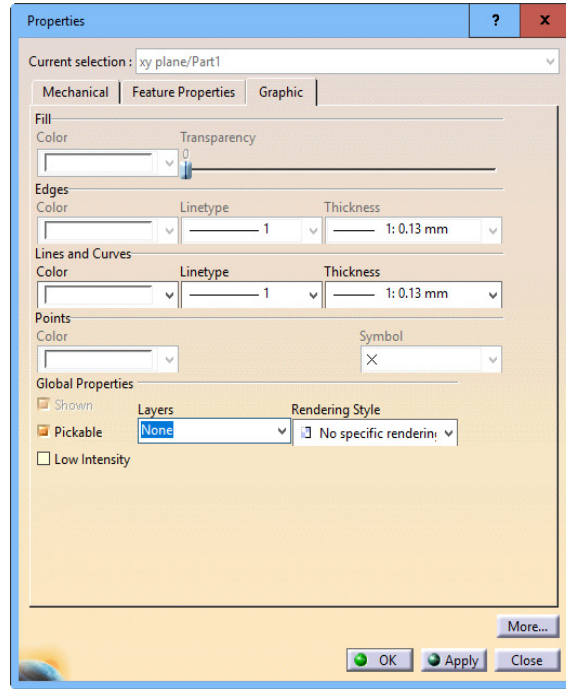

Figure 1-57 The **Properties** dialog box with **Graphic** tab chosen
**Graphic** tab and then select the Black color from the drop-down list in the **Lines and Curves** area. Choose the **OK** button to apply the scheme to the CATIA V5 environment. Similarly, change the color of the remaining two planes. Figure 1-57 shows the options in the **Graphic** tab of the **Properties** dialog box.